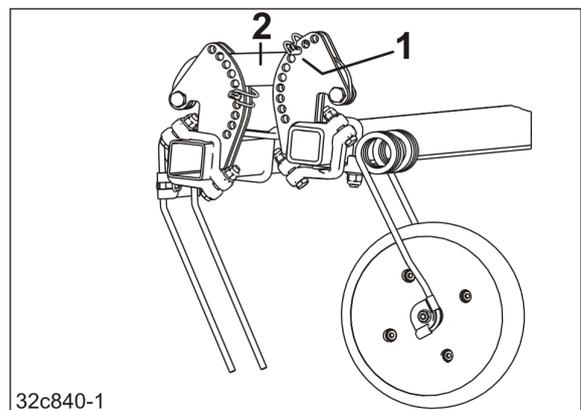

Fig. 188
3. The working depth of the harrow tines is adjusted by repositioning the safety pin for the tube (Fig. 188/1)
- o above the link (Fig. 188/2),
The lower the safety pin for the tube (Fig. 188/1) is inserted in the adjusting segment, the greater the working depth.